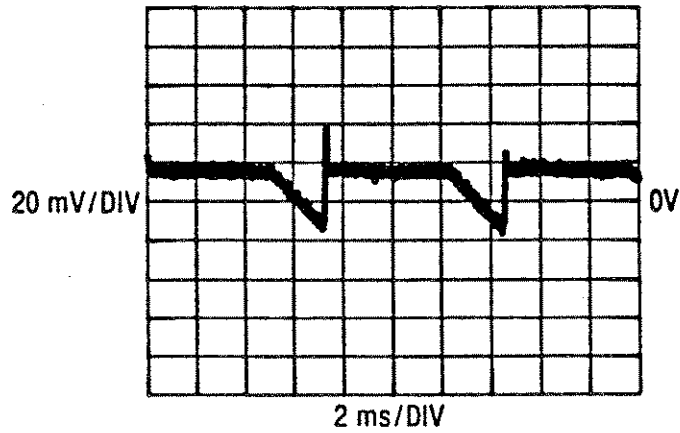

Figure 8-34. Auto Zero DAC Test Signal
1. Using the oscilloscope, compare the waveform at A5U10 pin 4 to the waveform shown in Figure 8-34.
If the displayed waveform is the same as Figure 8-34, the circuit is operating properly. If the Fault Isolation Procedure is being performed and the circuit is operating properly, go to the Offset Removal DAC, Buffer and Gain Compensation Test.
If the displayed waveform is not the same as Figure 8-34, measure the voltage at the collector of A5Q1. The measured voltage should be $+6.2 \pm 0.4$ Vdc. If the measured voltage is not as stated, continue with the Stable Current Source Test. If the measured voltage is correct, go to step 2.